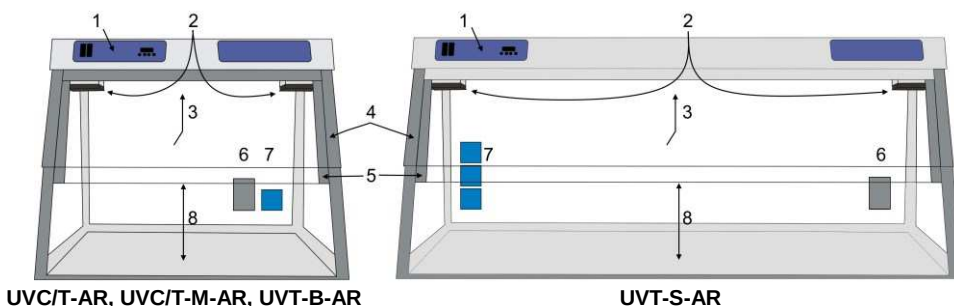

Figure 3. DNA/RNA UV box, frontal view:
- 5.2.1. Turn ON the switch **2** (fig. 2/2) on the control panel (fig. 3/1). This switches on the UV recirculator inside the unit (fig. 3/2) and the open UV-lamp exposition timer. The UV recirculator will operate all the time until the switch **2** is turned OFF.
- 5.3.1. Turn ON switch **1** (fig. 2/1) for lighting of the working place. This turns ON the luminescent (visible light) lamp inside the cabinet (fig. 3/3).
- 5.3.2. Lift the front protective screen (fig. 3/5) up for work in the cabinet. Models have different maximum opening heights (fig. 3/8), as listed in the **Specifications** section, and may be raised to the following positions:
Note. Do not block the recirculator openings (fig. 3/2)!
5.3.3. To use electric devices inside the cabinet, pull their power cable through the inlet and close the flap (fig. 3/6) or connect the power cable to a built-in mains socket (fig. 3/7, models with mains socket).
7.5. **Dust filter replacement.** The dust filters (fig. 3/2) on either end of the UV recirculator with the hidden UV lamp should be checked monthly and cleaned or replaced when they become clogged. To check, replace or clean the filters, simply unclip the covers, fit a new filter if necessary or rinse current filters in water, dry and place back. Clip covers back in place.